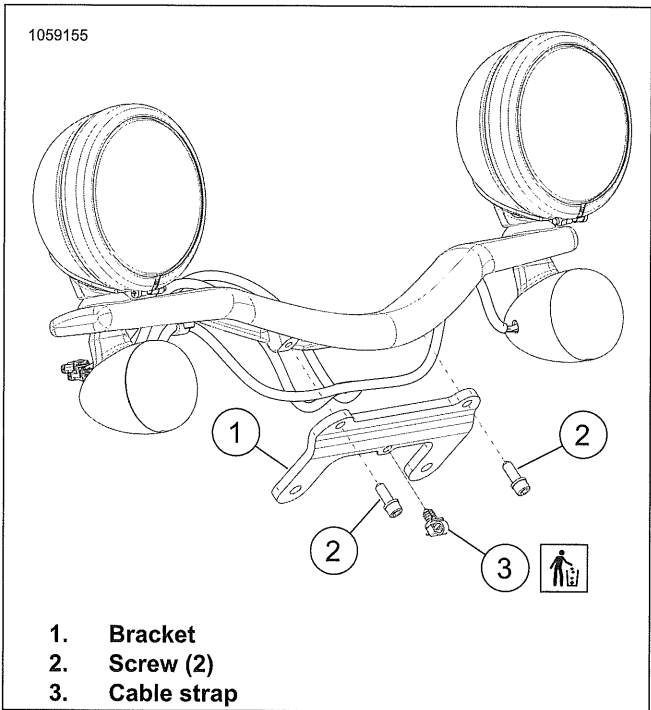
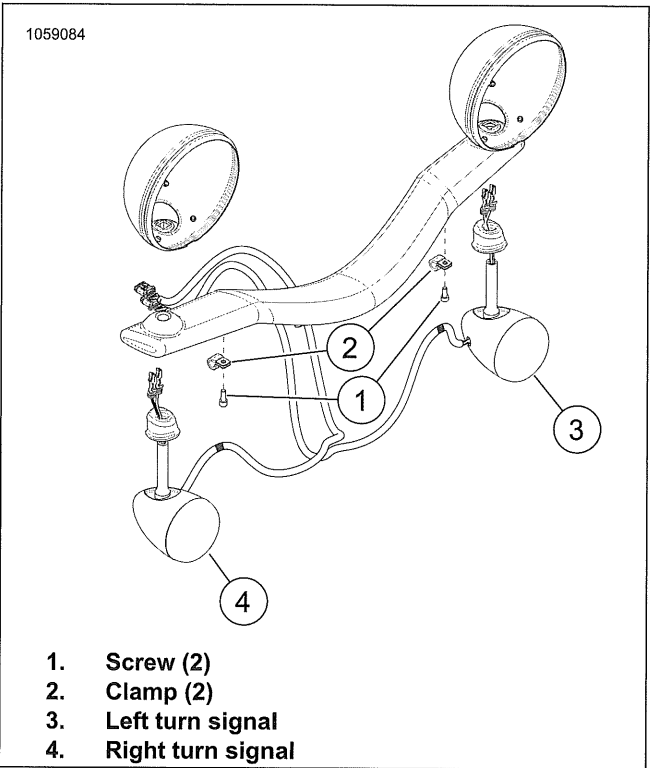

Figure 7-58. Light Bar Bracket
Figure 7-59. Light Bar Disassembly
- 1. See Figure 7-58. Discard cable strap (3).
- 2. Remove screws (2) and bracket (1).
- 4. See Figure 7-59. Remove screws (1) and clamps (2).
- 1. See Figure 7-59. Install left and right turn signals (3, 4).
- 2. Install screws (1) and clamps (2). Tighten.
4. See Figure 7-58. Install screws (2) and bracket (1). Tighten.